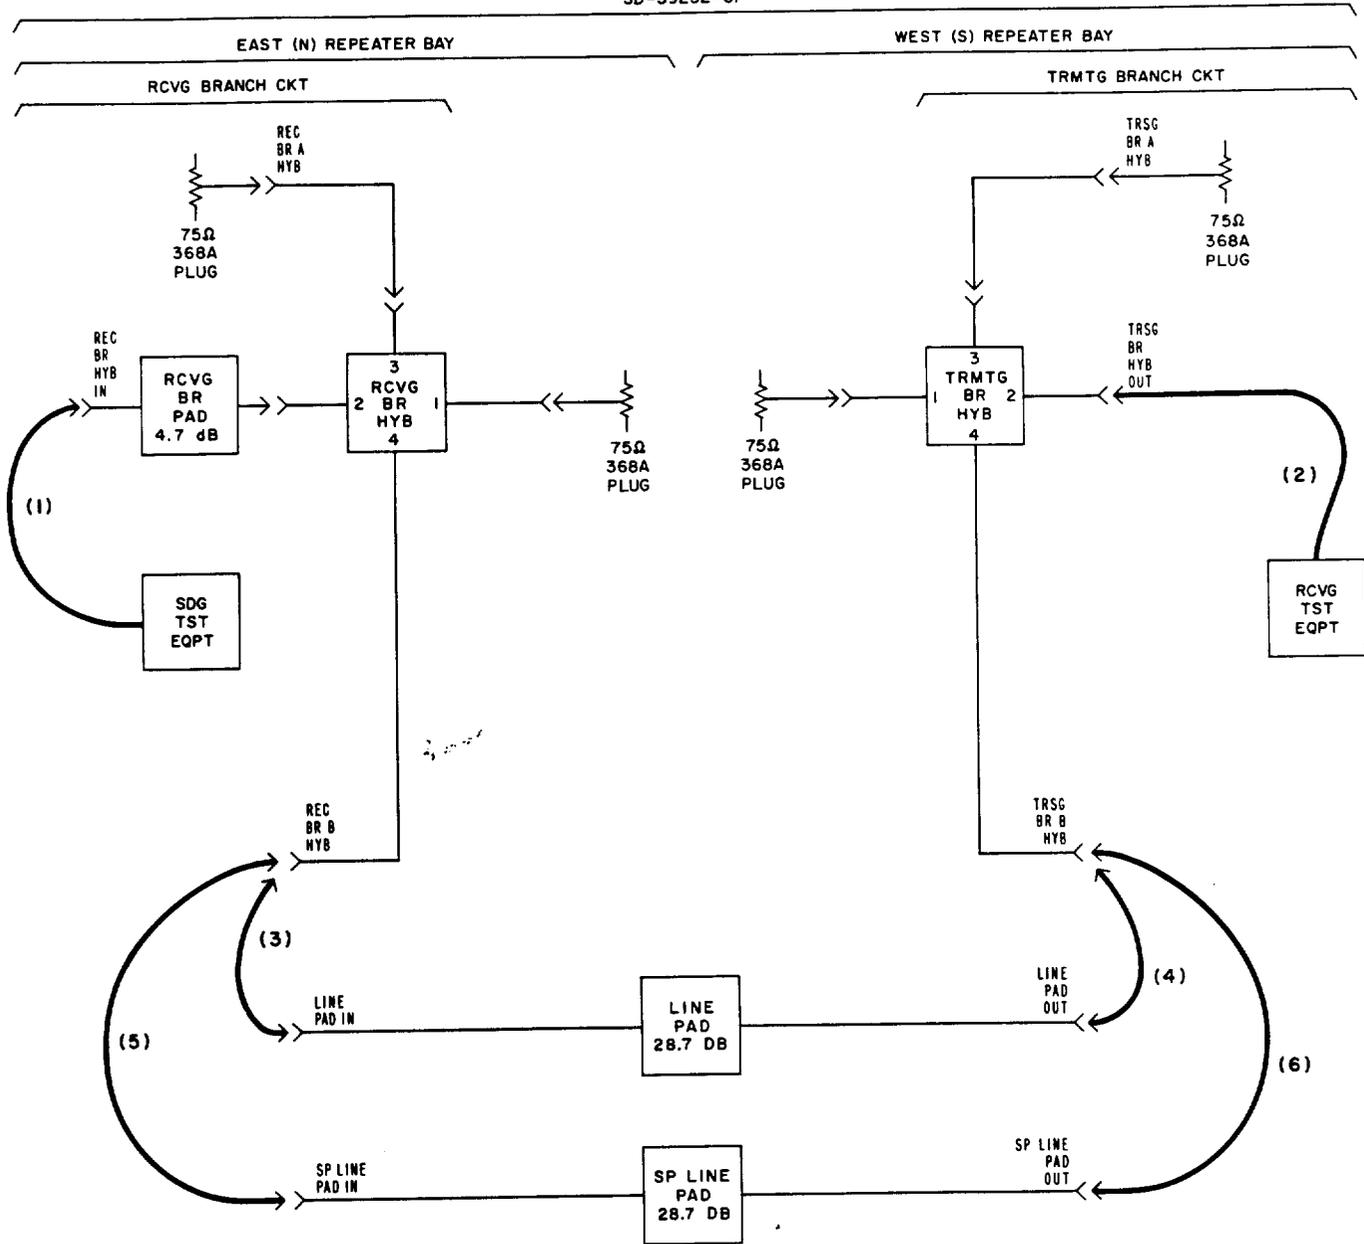

Fig. 2—Transmission Test of Line Pads
2	Terminate the REC BRANCH A HYB and TRSG BRANCH A HYB jacks with the 368A terminating plugs as shown in Fig. 2.
6	In the repeater bay jack field, make patches designated (1), (2), (3), and (4) in Fig. 2.
9	Check the spare line pad by making patches (1), (2), (5), and (6) in Fig. 2.